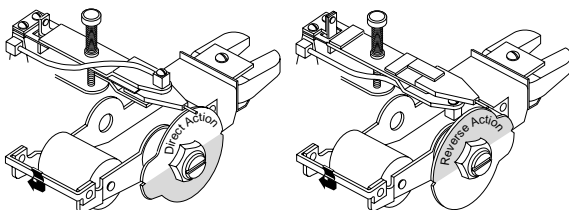

Figure 9
Should it be required to change the controller action, the action cam can be manually rotated 180° to the desired action. Make certain that the notch in the cam is set into the tab of the pilot nozzle assembly. Cam actions are clearly marked on the cam face as indicated in Figure 9. A zero adjustment will normally be required upon change.
2. Check that the pilot nozzle assembly is set up for differential gap operation. Figure 9 on page 9 illustrates the pilot nozzle flapper configurations used for the two control modes, proportional and differential gap. If your unit is already set up for differential gap mode, proceed to step 3.